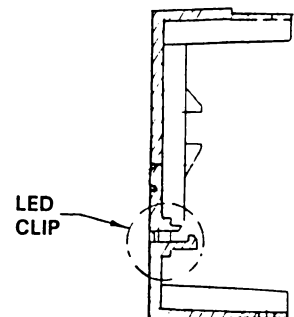

Fig. 2-4 Front Bezel Cutaway View
2.3.5 Disconnect the LED from the front bezel by gently releasing the LED clip. See Fig. 2-4.